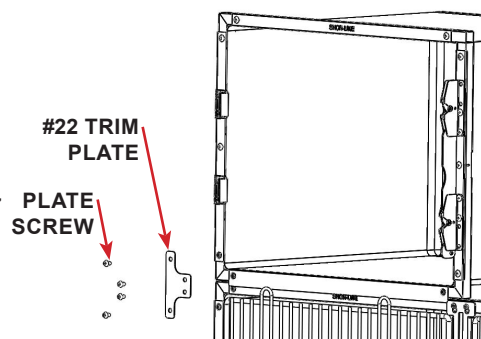

FIGURE 2.37 - Trim Plate #22
**STEP 9:** Remove the screws (4 ea) from the bottom left corner of the new cage and the top left corner of the cage below. See FIGURE 2.37
**STEP 10:** Install, but do NOT fully tighten screws, the middle-left trim plate (#22) using the screws removed in the previous step. See FIGURE 2.37